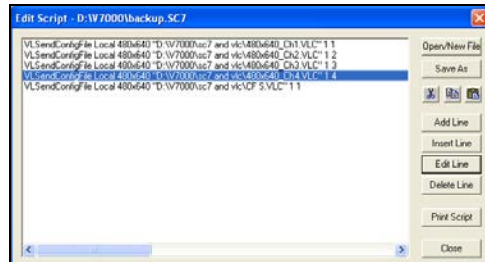

Figure 40: Saving Configuration to VIP by Running Script
15. Repeat **Steps 4-10**, this time adding the CF S.VLC file to the script. When run, this scripting line will save the configuration on to the VIP. Refer to **Figure 40**.